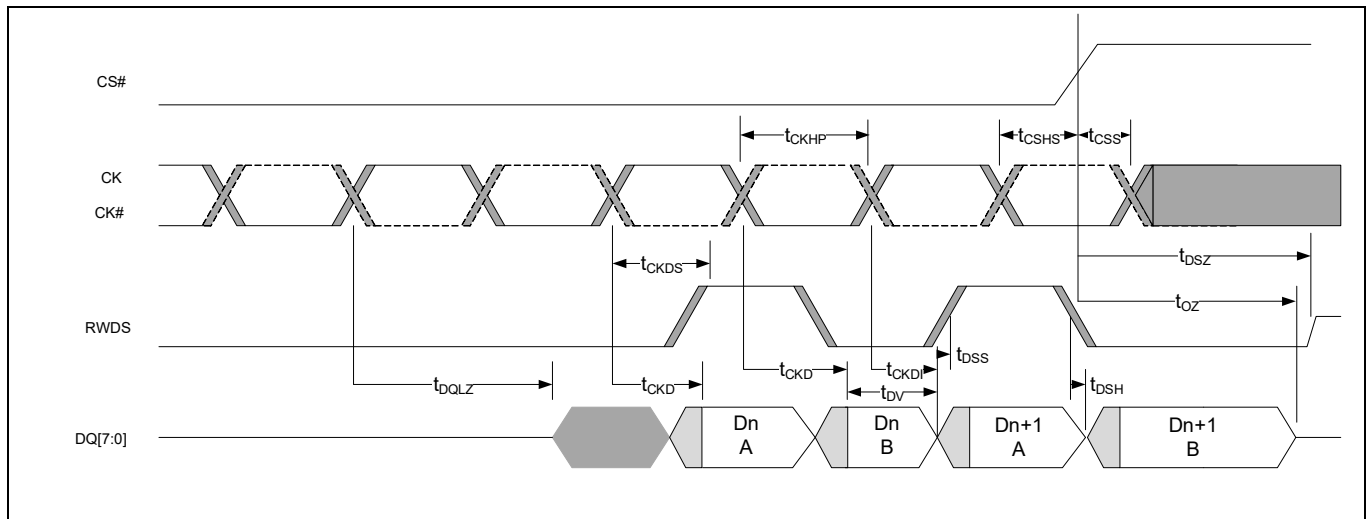

Figure 29 Data valid timing^[73-75]
71. Refer to **Figure 29** for data valid timing.